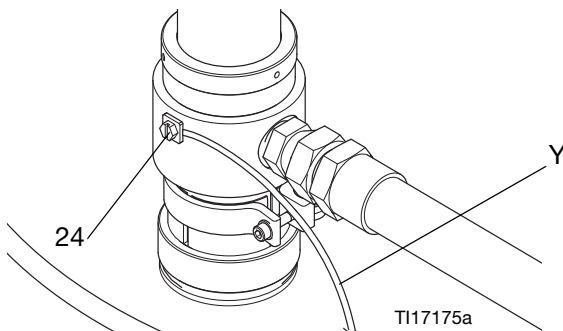

FIG. 9
Pump: Connect Ground Wire (Y) to grounding screw (24) and tighten the screw securely. See FIG. 9. Connect the other end of the wire to a true earth ground. Make certain to comply with all National, State, and Local Electrical Codes.